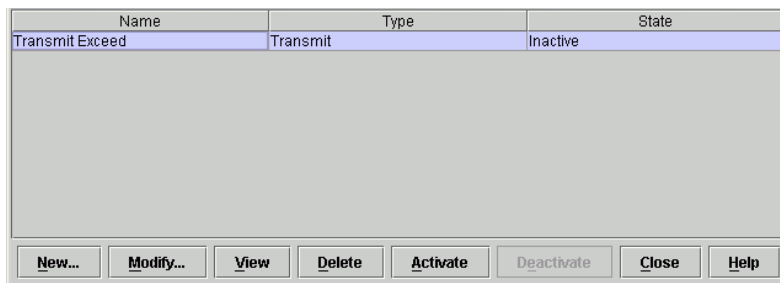

Figure 2-53 Configure Threshold Alert(s) Dialog Box
1. At the *Hardware View* for the selected director, select *Threshold Alerts* from the *Configure* menu. The *Configure Threshold Alert(s)* dialog box displays (Figure 2-53).
12. Click *Finish*. The *Configure Threshold Alerts* dialog box (Figure 2-53) appears listing the name, type, and state of the configured alert.